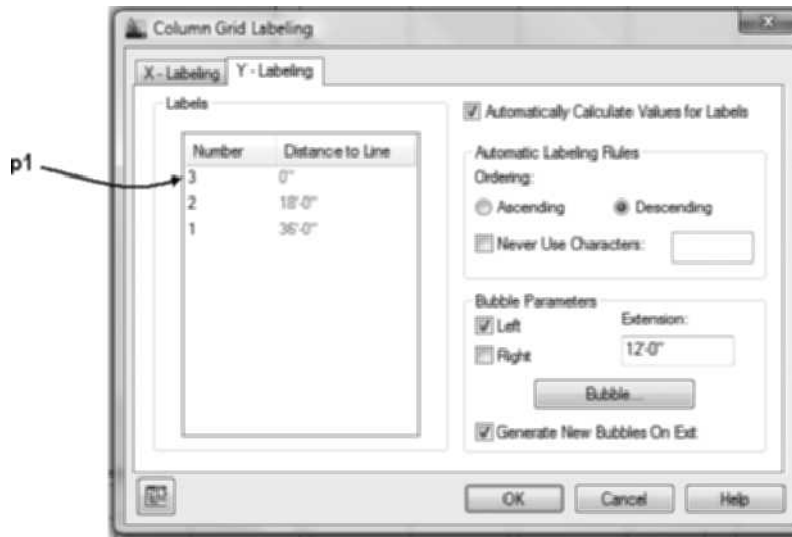

FIGURE 13.40 Y-Labeling of the column grid
5. Select the **Y-Labeling** tab. Edit as follows: Check **Automatically Calculate Values for Labels**; select the **Descending** radio button; verify that the **Bubble Parameter Left** is checked and clear the **Right** bubble; set the extension to **12'-0" [3500]**; and select **Generate New Bubbles on Exit**. Type **3** in the top row of the **Number** column as shown at **p1** in Figure 13.40. Click **OK** to dismiss the Column Grid Labeling dialog box.